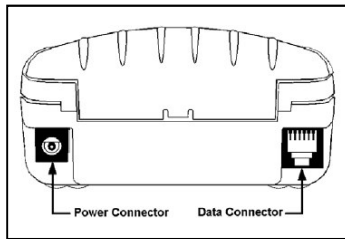

Figure 35
- Connect the power pack charger to the »Power Supply« connection of the printer (Figure 35).